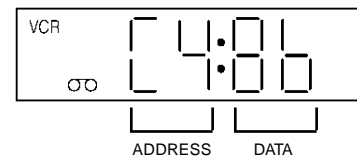

Fig. 1
2. Press both CH UP button on the set and the FF button on the set for more than 2 seconds. ADDRESS and DATA will appear on FIP as Fig 1.